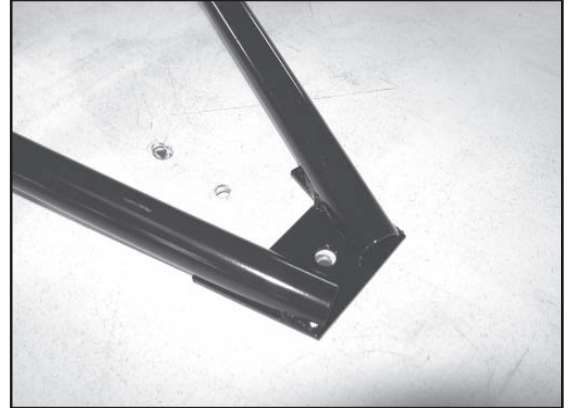

Figure 5 - Mark For Drilling
4. Mark where the hole will need to be drilled through the top to mount at the rear of the light bar, remove the bar, and drill the top using a 3/8" bit. See figure 5.
Note: Make sure to install the rubber sealing washer on the underside of the top with the rubber surface resting against the top itself. Failure to install this washer properly may lead to water leaks. Figure 5